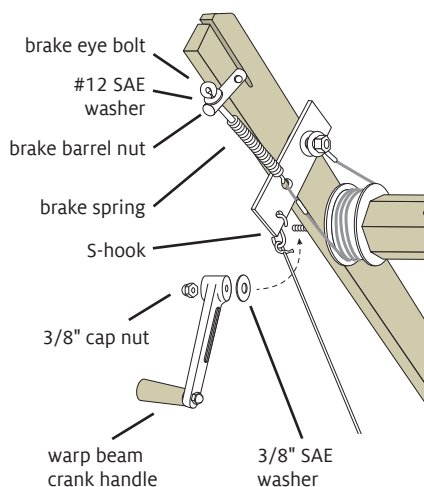

FIGURE 11: BRAKE EYE BOLT, BRAKE SPRING, AND WARP BEAM CRANK HANDLE
14. Hook the brake spring to the brake bar, in the hole shown in Figure 11. Insert the eye bolt through a #12 SAE washer, then through the hole in the brake barrel nut, and screw it into the spring insert. Tighten the eye bolt until, when you stand at the rear of the loom, you can't turn the warp beam away from you with both hands.
15. Hang the brake S-hook, with brake cord already attached in step 8, in the hole shown in Figure 11. Adjust the tension in the brake cord from the brake handle at the front of the loom: move the plastic arrow peg to a different hole in the brake cord.
16. On the outer side of the right double back beam support, install the final 3/8" SAE washer on the threaded axle of the warp beam (Figure 11). Place the warp